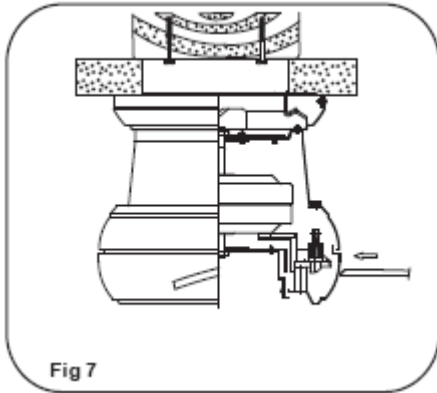

Fig 7
Step 1. Insert the blades into the motor housing blade slots, push blade until it stops. You should be able to hear the inside safety pin drop into the blade hole to secure the blade in place. (Fig. 7) CAUTION: Re-check each blade to make sure all blades are secured to the locking mechanism by holding the blade from the tip and gently pulling it outwards. The blades should be snug to the motor housing without any up, down or sideways play.